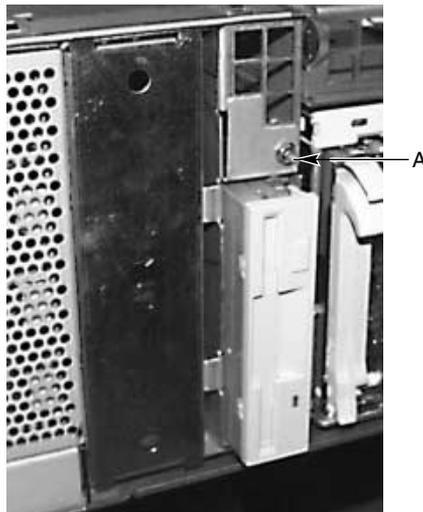

Figure 2-11 Location of the Media Bay Screw
The media bay holds a 0.5-inch slim-line floppy and a 0.5-inch slim-line CD-ROM drive. The drives are secured to the media bay by a screw as shown in Figure 2-11. (Although Figure 2-11 shows a single 3.5-inch floppy disk drive, the SGI 1450 server is shipped with a 0.5-inch slim-line floppy and a 0.5-inch slim-line CD-ROM drive.)
5. Remove and save the screw that secures the drive to the bay. The screw is noted by “A” in Figure 2-11.
5. Insert and tighten the screw that secures the drive to the bay. The screw is noted by “A” in Figure 2-11.